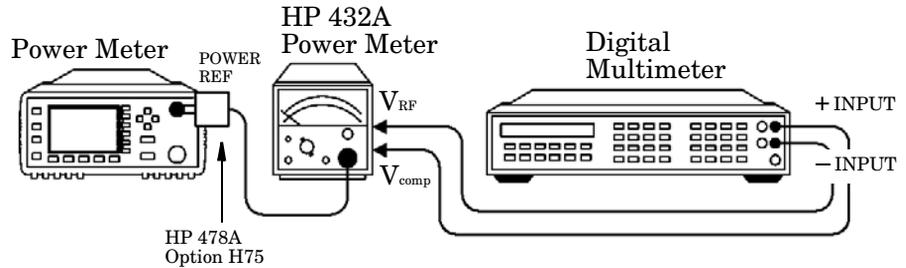

Figure 2-3: Power Reference Level Test Setup
2. Round off the DVM reading to two decimal places and record this value as the internal bridge resistance (R) of the HP 432A (approximately 200 Ω).
3. Connect the equipment as shown in Figure 2-3, ensuring that the DVM input leads are isolated from chassis ground.